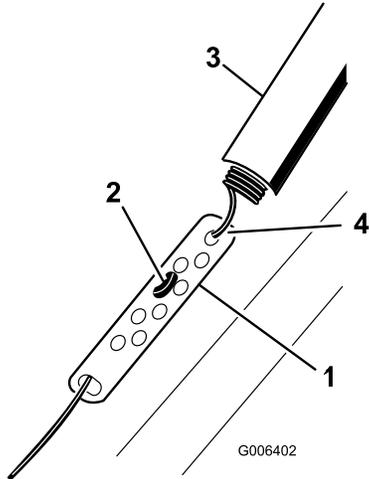

Figure 17
- Slide up the spring cover and unhook the spring from the adjuster link (Figure 17).
- Move the Z-fitting to a higher or lower hole on the adjuster link as needed to obtain the 1/16 inch to 1/8 inch (2 mm to 3 mm) gap between the control bar and the handle (Figure 17).